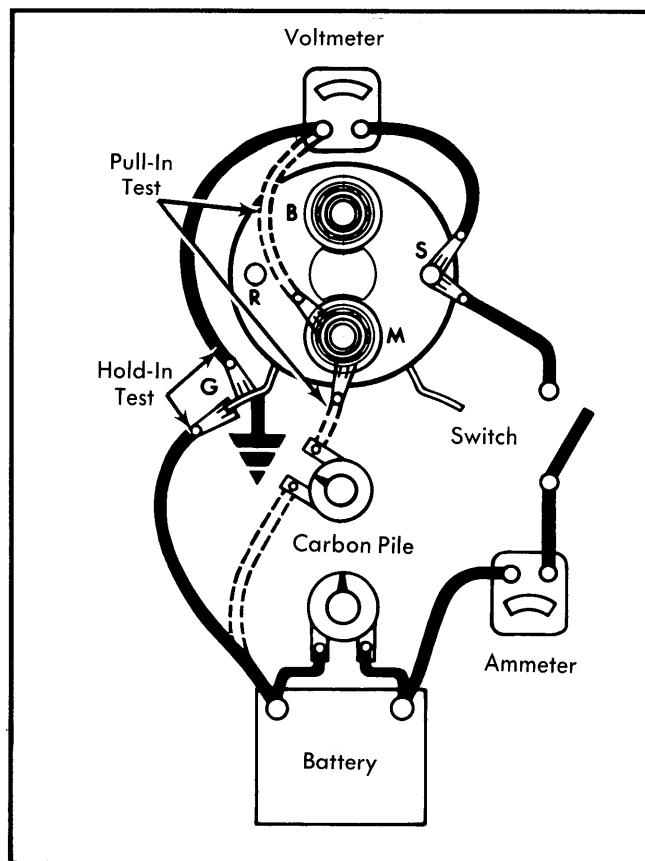

Fig. 1 Solenoid Winding Test Connections
**Pull-In & Hold-In Windings** — To check both windings, connect test equipment as shown in Fig. 1. Ground "MOT" or "M" (motor) terminal of solenoid. Adjust voltage to 10 volts and note ammeter reading. It should be 41-47 amperes for all starter solenoids.